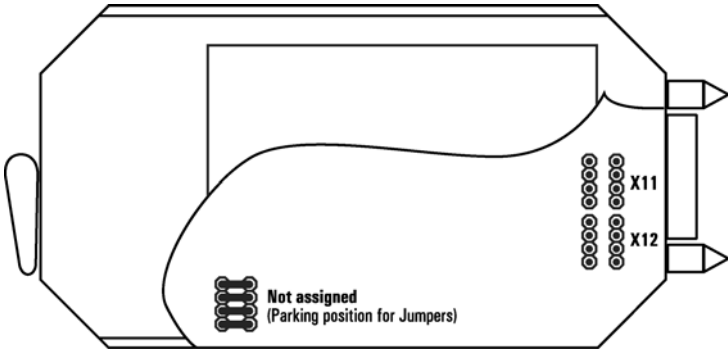

Fig. 2.282 Jumper settings for the SRU: Local feeding
- Settings for local feeding (Fig. 2.282)